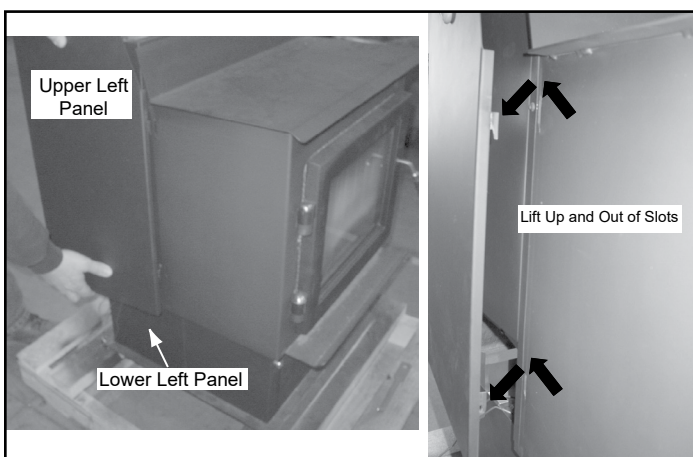

Figure 24.2
3. Remove the upper and lower side panels by lifting up and out. The hooks on the panels will slide out of the slots on the appliance (**Figure 24.2**).